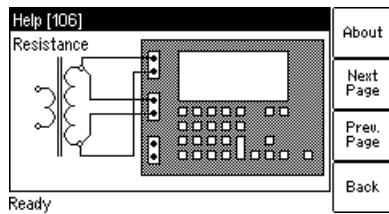

Figure 10-16: Wiring example for resistance measurement
1. Connect the OUTPUT sockets and input SEC of *CT Analyzer* to the winding to be measured (see Figure 10-16).